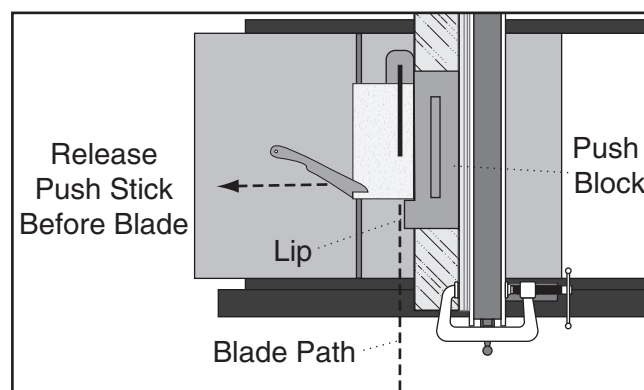

Figure 91. Ripping with push block.
6. Guide workpiece rest of way through cut with push block, as shown in **Figure 91**.